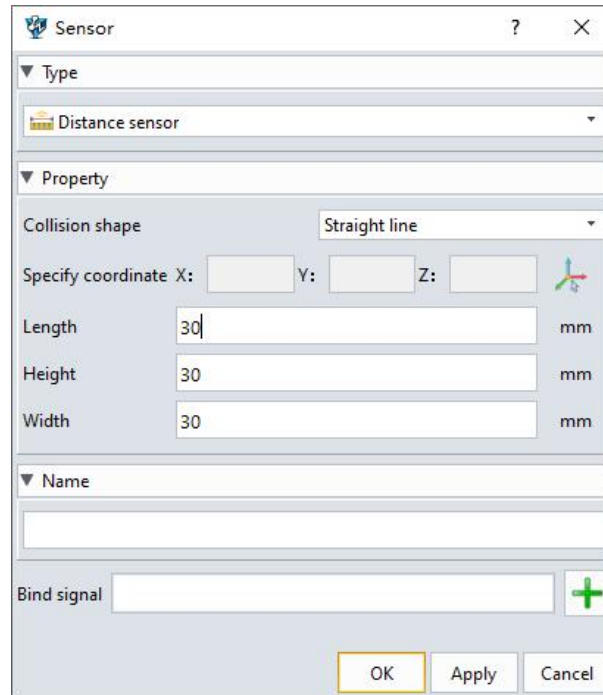

Figure 3-11: Sensor
- Sensor: Use collision sensors to collect collision events. The size of the collision shape, length, height, and width depend on the type of collision shape.(Figure 3-11)